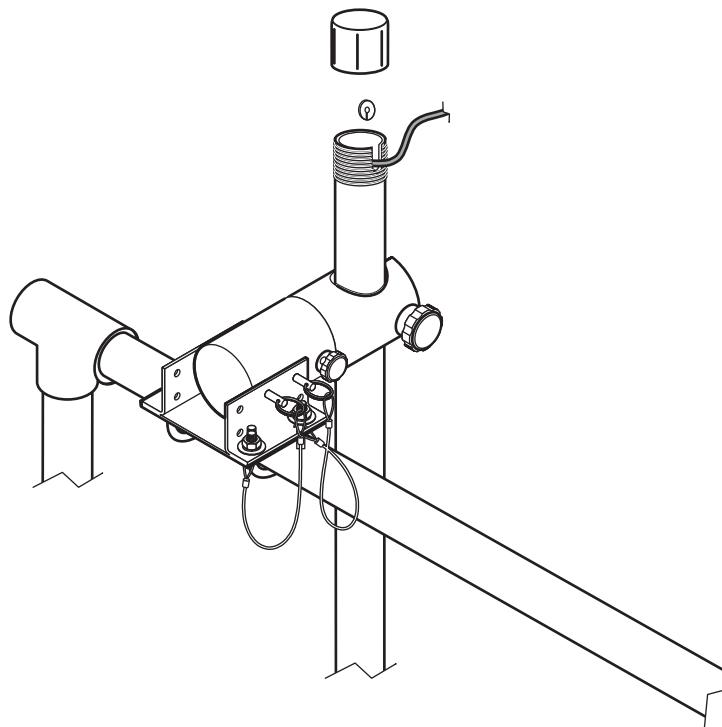
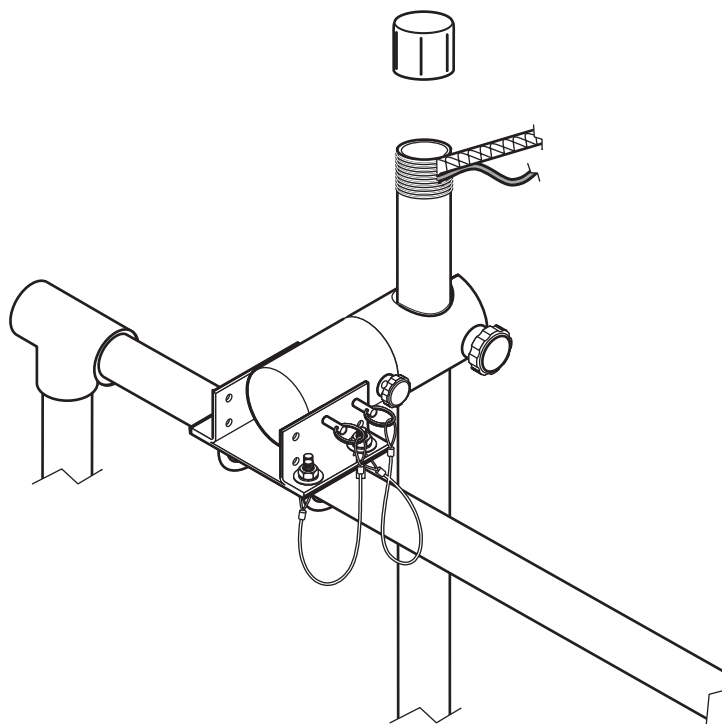

Figure 9: Installing the screw cap without the cleaning unit
Figure 10: Installing the screw cap with the cleaning unit
5. Fit the screw top (Figure 9: or Figure 10: on page 10).